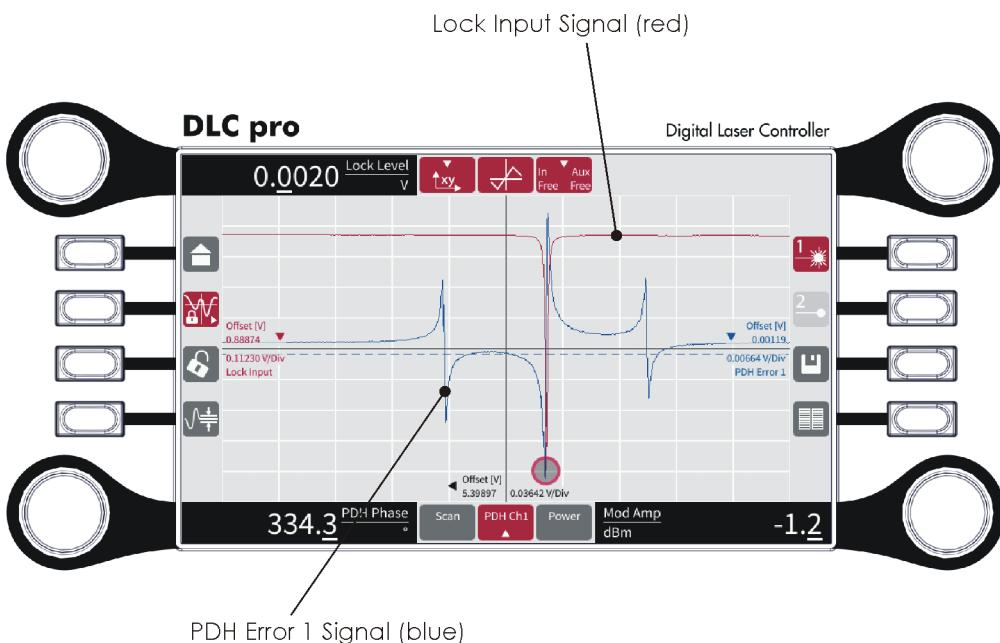

Figure 98 Display of the cavity spectrum (Lock Input Signal, red) with the corresponding PDH Error 1 signal (blue).
7. Adjust the blue PDH Error 1 signal until it looks similar to the example shown in Figure 98. Use the rotary knobs and the parameter menu (**PDH**) to configure the PDH lock parameters.